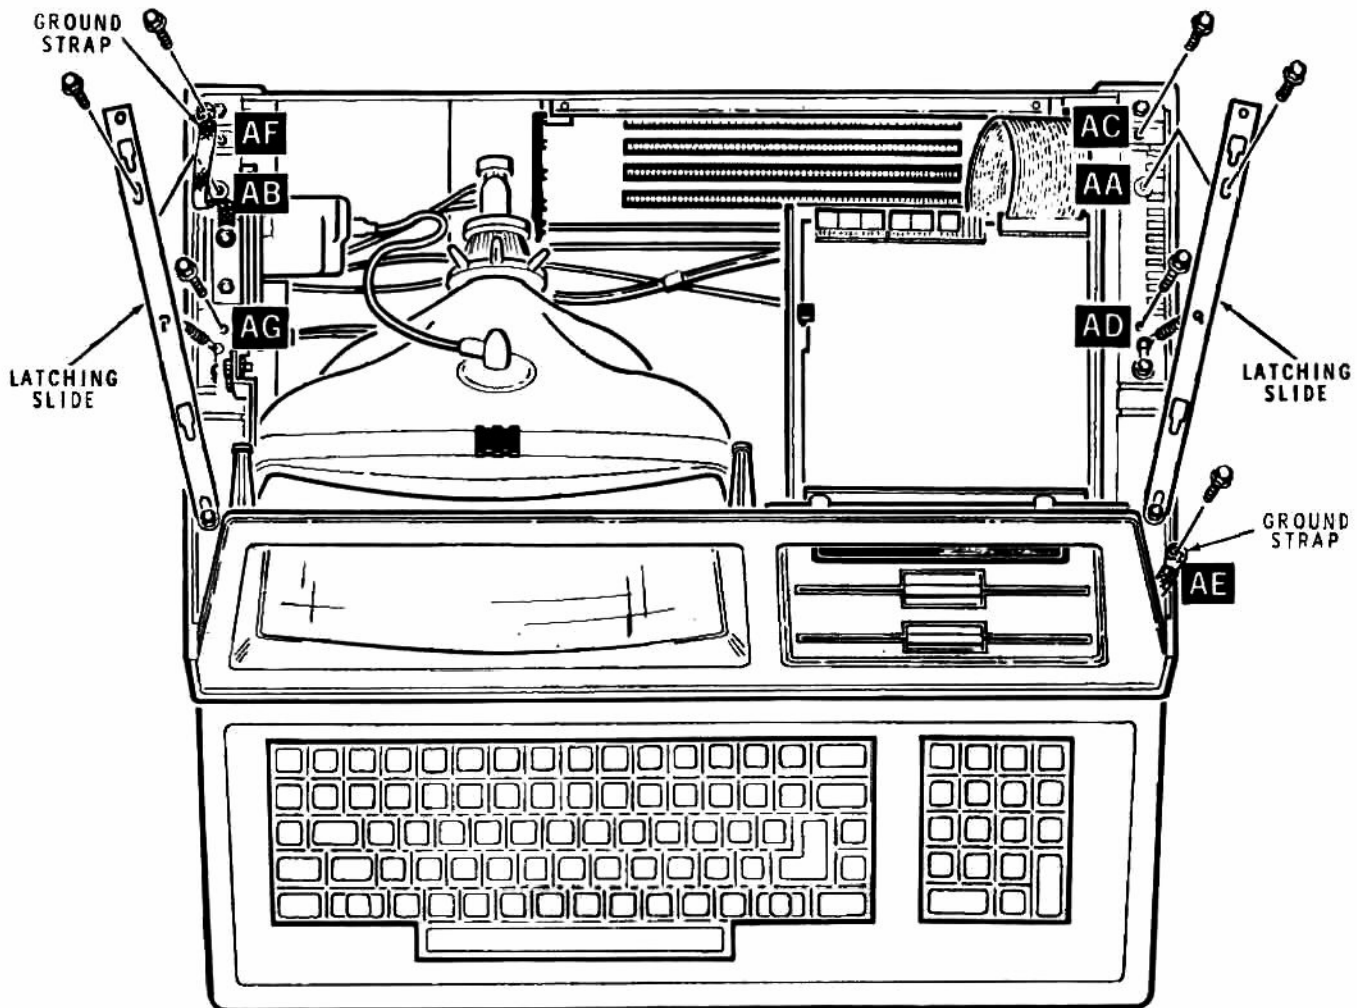

Figure 2.14. Ground Straps and Latching Slides
- Refer to Figure 2.14. Install and tighten the five screws at positions AC, AD, AE, AF, and AG. Install the two ground straps at positions AE and AF.